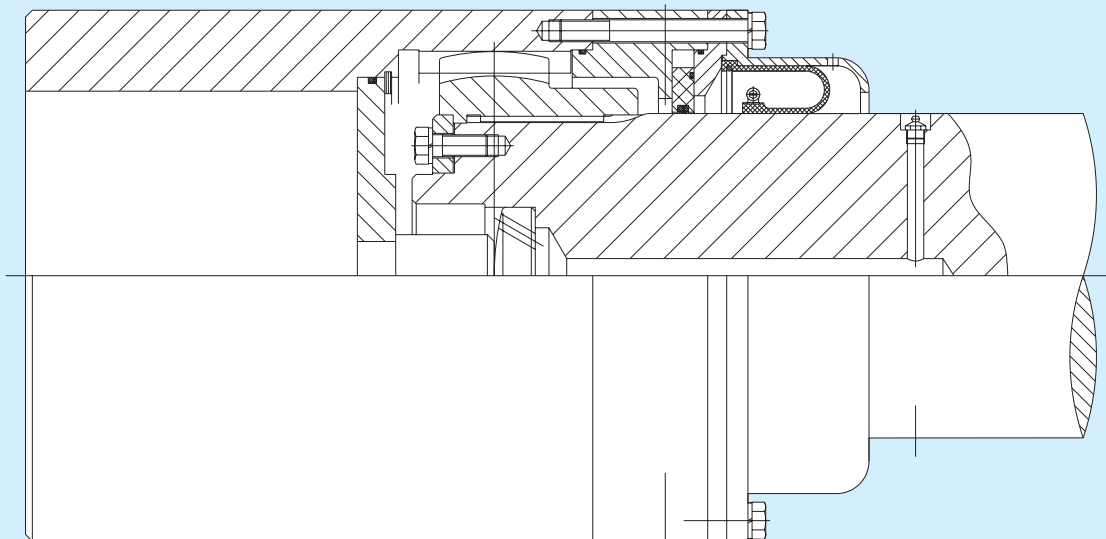

Fig. 2 Special seal
2) Special seal, which assures a complete grease unleakage under the worst working conditions is shown in fig.2: